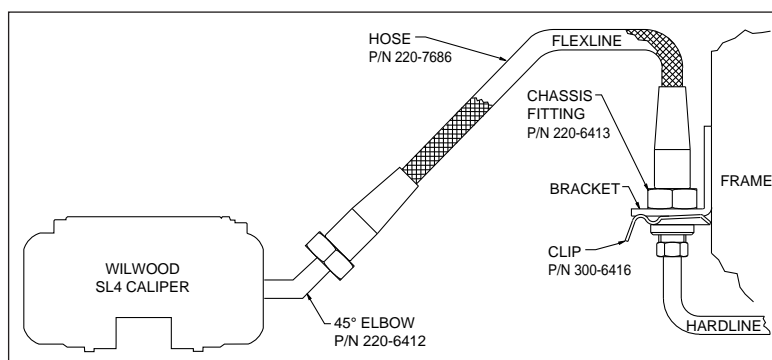

Figure 4. Brake Line Diagram
- Remove the caliper center bridge pad retainer bolt, nut, and tube from the caliper. Insert the brake pads (13) into the caliper, with the friction material facing the rotor, as shown in Photo 4. Check that the top of the brake pad is flush with the outside diameter of the rotor, Photo 5. If not, adjust by adding or subtracting shims (11) between the caliper and the bracket. After the caliper pad height is set, reinstall the center bridge pad retainer tube, bolt, and lock nut. The lock nut should be snug without play in the bolt or tube. Be cautious not to over tighten. Torque the caliper lock nuts (8) to 30 ft-lb.
- **NOTE:** *The caliper in this brake kit utilizes a 1/8-27 NPT pipe thread inlet. OEM rubber brake hoses generally cannot be adapted to Wilwood calipers. Wilwood offers a brake flex line hose kit to fit this application, order P/N 220-9101, Figure 4. Hose kit includes hoses, fittings, etc., all in one package for this application. Carefully route hoses to prevent contact with moving suspension, brake or wheel components. NOTE: Wilwood hose kits are designed for use in many different vehicle applications and it is the installer's responsibility to properly route and ensure adequate clearance and retention for brake hose components.*